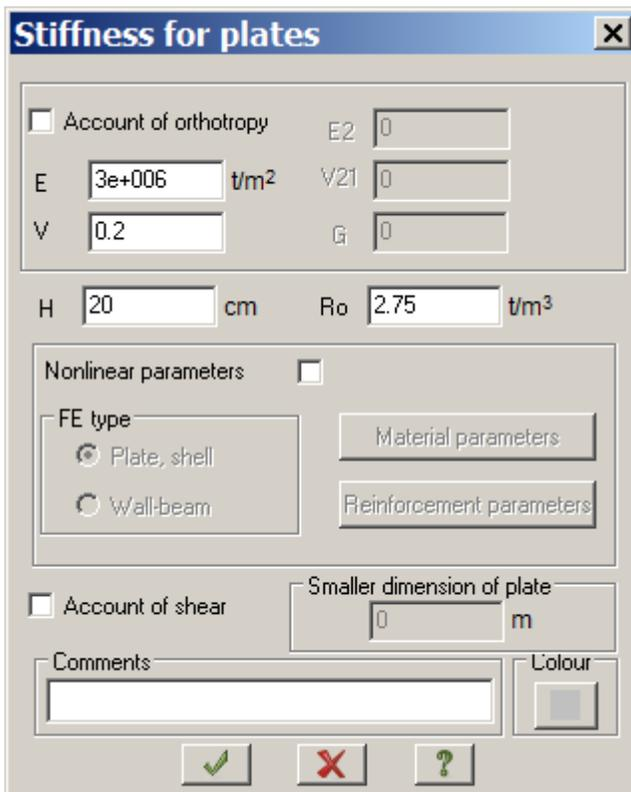

Figure 22.5 Stiffness for plates dialog box
- ⇒ In the **Stiffness for plates** dialog box (see Fig.22.5), specify the following parameters for **Plate** (floor slab):